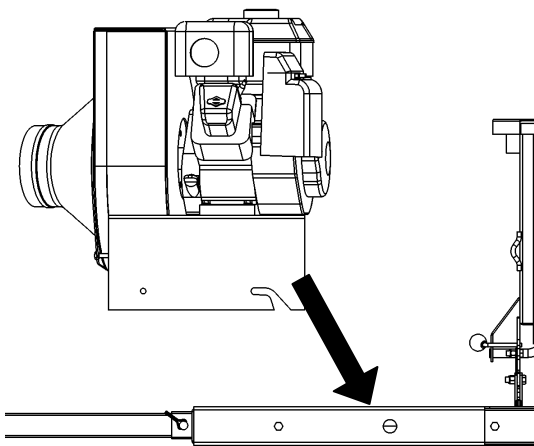

Figure 3
9. Align fan/engine/pump assembly on lower slots of motor base with the rivets, pushing down and rearward to align the front holes. (Figure 3)